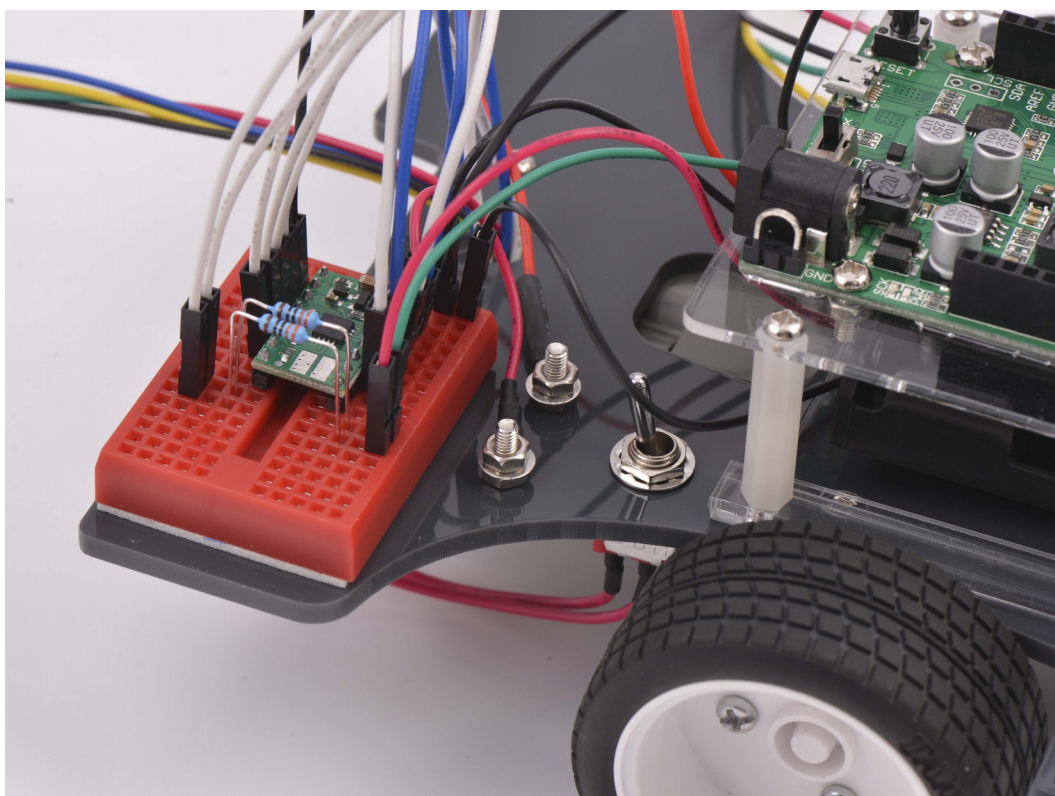

Figure 2.37
Connect the left and right LED lights to the breadboard. Place one (1) 220Ω resistor in series for each LED light, and connect them to the STEM Board microcontroller using male-male wires, as shown in figure 2.37.